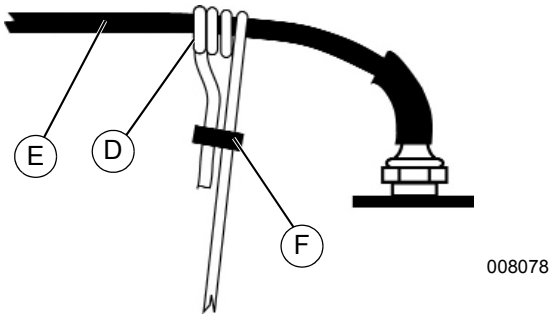

Figure 2-10. Maintenance Meter Installation
5. See Figure 2-10. At a convenient point along the spark plug wire wrap four or five turns of meter wire (D) tightly around the spark plug wire (E) and secure the meter wire to itself with a cable tie (F). Cut and discard the balance of the wire.